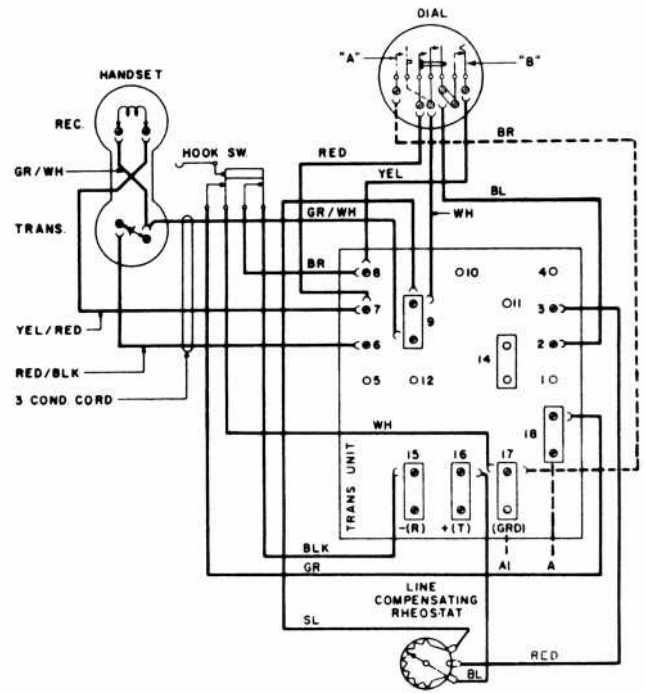

Figure 10. Schematic and Wiring Diagram for the Manually Adjusted Type 183 Telephone.
2.10 A manually adjusted Type 183 telephone has, stamped on the baseplate, a code number prefixed with the letter L. A schematic diagram and a wiring diagram of the manually adjusted Type 183 telephone are shown in Figure 10. Station wire must be connected to the transmission unit terminal strip as follows: red wire to terminal 15, green wire to terminal 16, and yellow wire to terminal 17. Ringer connections are described in related publications in the 473 series.
4.10 For manually adjusted telephones (Figure 10), connect a 0.03 mfd capacitor across terminals 6 and 9; or, across the transmitter terminals in the handset, whichever is more convenient.